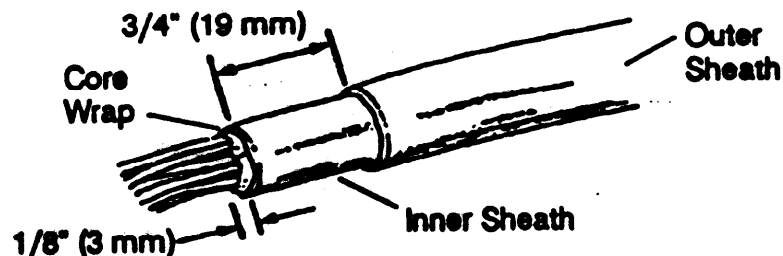

Figure 4.2 - Preparation of Double Sheath Cable
4.02 For use on double sheath cables, cut shield flush with the sheath. Remove $\frac{3}{4}$ " (19mm) of outer cable sheath exposing the inner sheath. Remove $\frac{1}{8}$ " (3mm) of inner sheath exposing the core wrap. See Figure 4.2, this prepares the sheath for installation of the 4460-D.